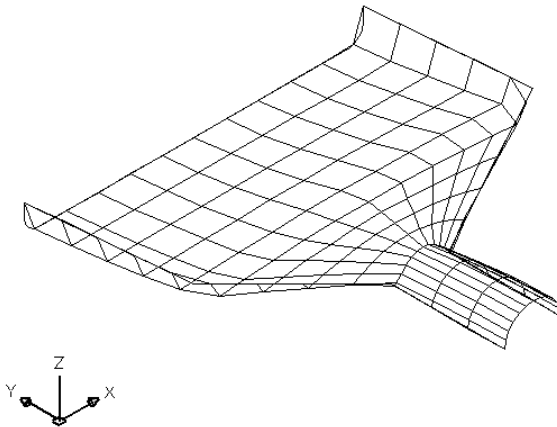

**Figure 23-40:** The completed dustpan — or starship.
6. Save your drawing. It should look like Figure 23-40. It's either a dustpan or a starship—your choice.
You cannot convert polygon or polyface meshes. Figure 23-40 shows edges extracted from a lofted surface.